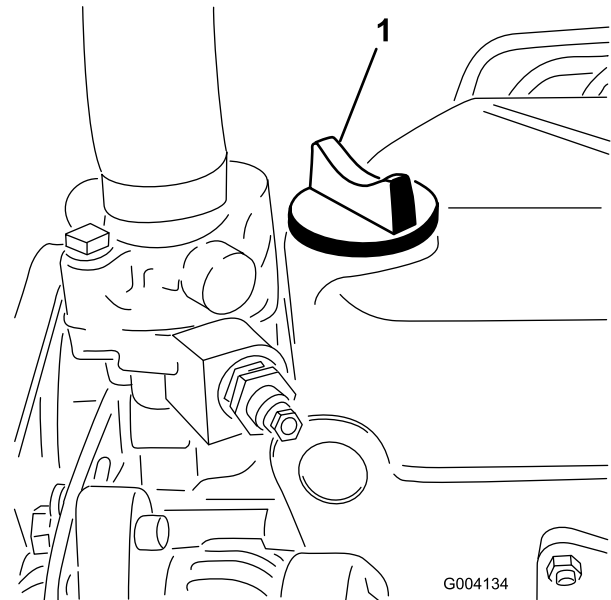

Figure 33
5. If the oil level is below the Full mark, remove the fill cap (Figure 33) and add oil until level reaches the Full mark on dipstick.